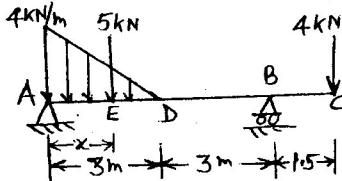

Fig. 6
6. A simply supported beam ABC is loaded as shown in fig. 6. Determine the location at which a concentrated load of 5 kN must act from end A to make the reactions at A & B equal. Draw the bending moment and shear force diagrams. Also locate the point of contraflexure. 20